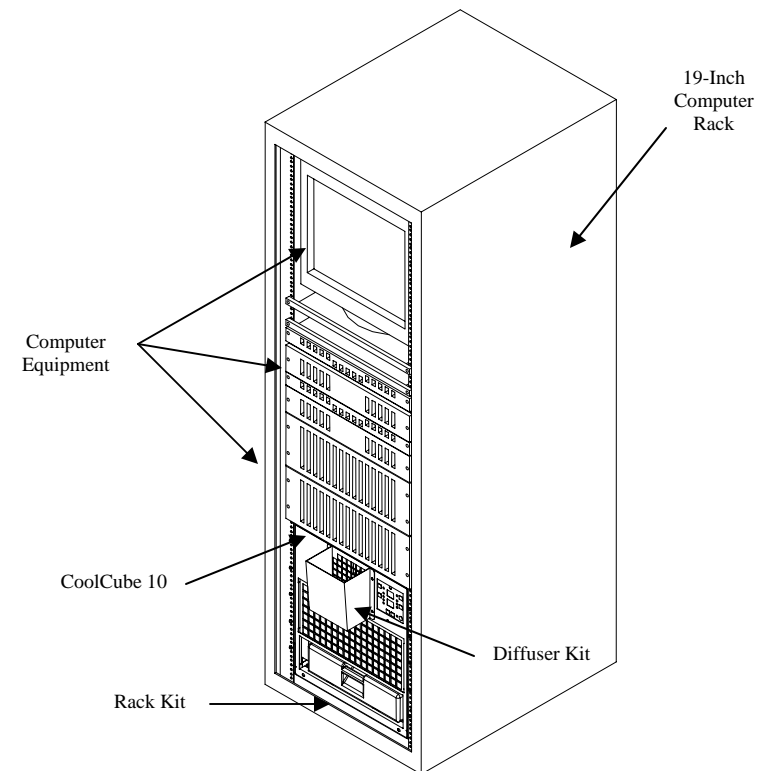

Figure 6
- Rack Kit (Figure 6)
- Six-Inch Nozzle Kit (Figure 6)
- Using (2) people, place the Cool Cube 10 inside the computer rack on top of the Adjustable Shelf. See Figure 6